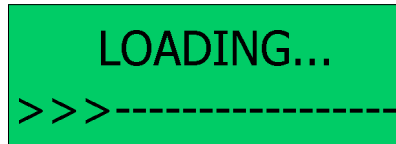

Fig. 4-1: Initialization Interface
1. When system is turned on without connecting to the teaching pendant, the LCD will enter initialization interface automatically (Refer to Fig.4-1)